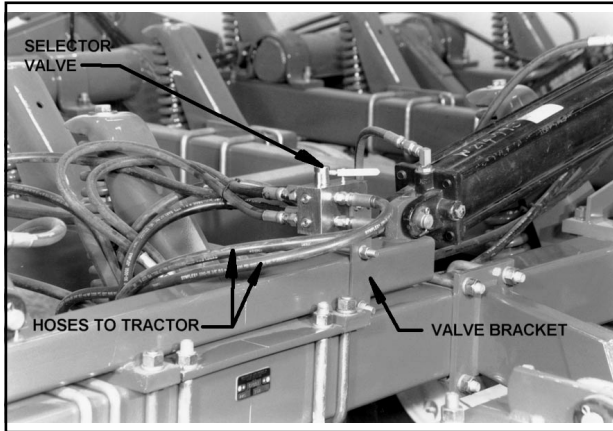

Figure 3-31 - Selector Valve Location
- a. Attach valve bracket to wing cylinder anchor tube with 1/2" U-bolt (See Figure 3-31).